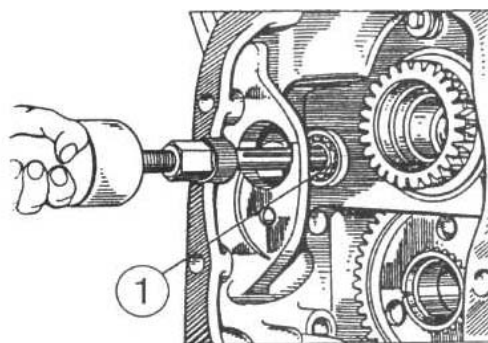

Figure 4.39
- k) press bearing 1 (Figure 4.39) off clutch body.